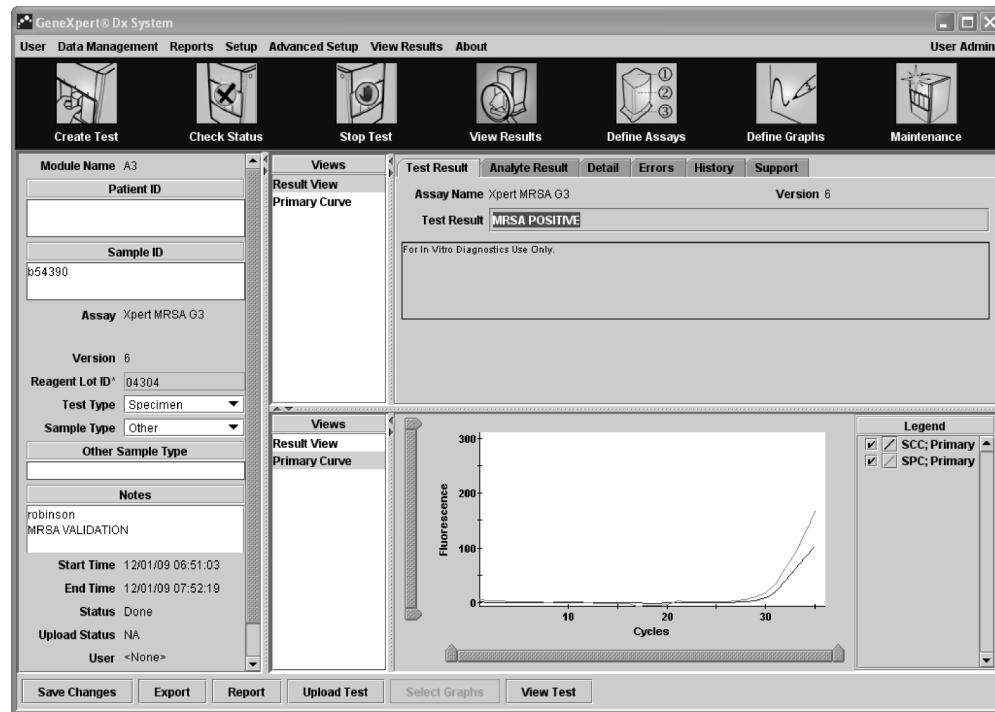

Figure 5-34. GeneXpert Dx System, View Results window—(Detail users and administrator view)
1. In the GeneXpert Dx System window, click View Results on the menu bar. The Test Result tab window is displayed (Figure 5-34).